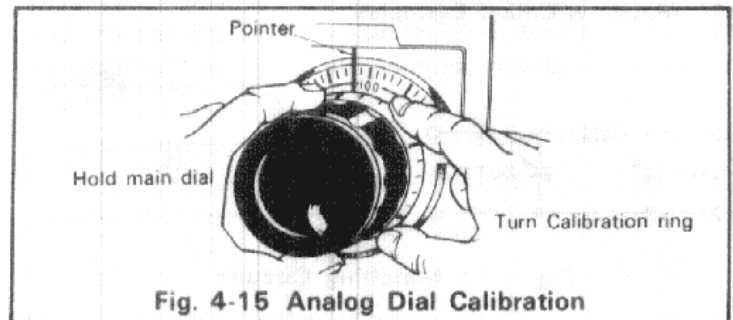

Fig. 4-15 Analog Dial Calibration
4.11 ANALOG DIAL CALIBRATION (Fig. 4-15)